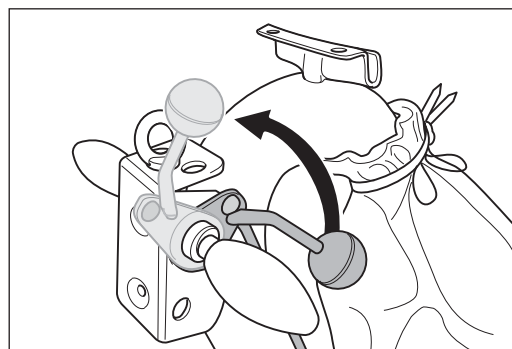

Fig. 33 Lift the sanding drum off the floor by turning the lowering lever at the handle upwards.
- 1 Lift the sanding drum off the floor by turning the lowering lever at the handle upwards (Fig. 33).
- **Always** lift the sanding drum off the floor before switch on the machine (Fig. 33)!